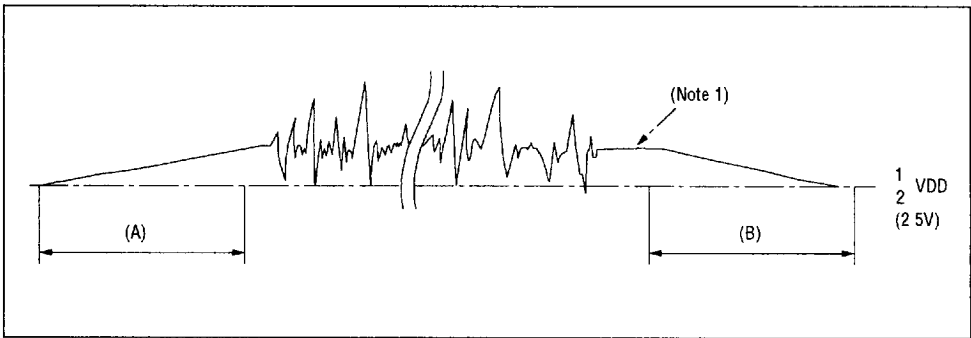

Figure 4 Waveform the DA Converter
To put it concretely, by adding data before or after the current ADPCM data (voice data), the waveform center can be shifted as shown in Figure 4.
When (A) is added before voice data and (B) is added after the voice data, the output waveform is as shown in Figure 4.